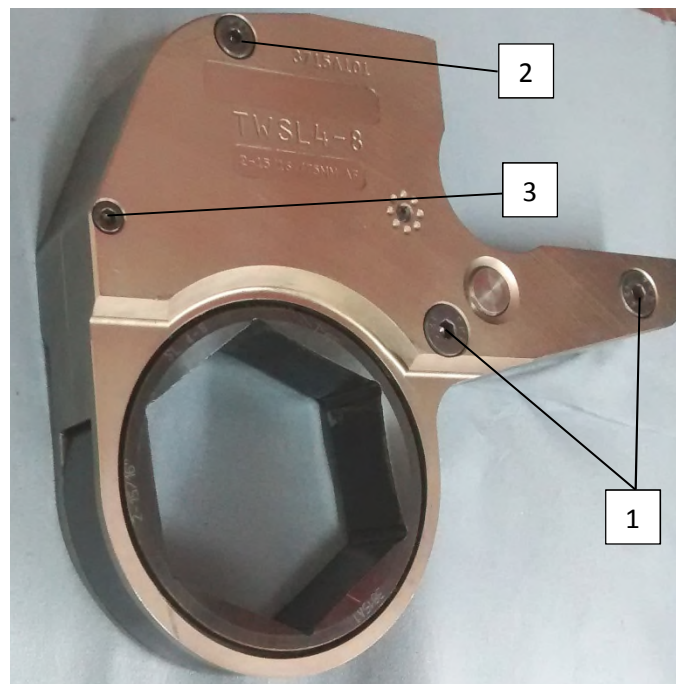

Figure 11. Sideplate retaining bolts
6. See figure 11. Apply Revol R5 Moly Anti Seize or general grease to the shoulder/shank (not the thread) of the sideplate retaining bolts. Apply Loctite 243 to the thread of the sideplate retaining bolts and tighten in accordance with the following torque specification.